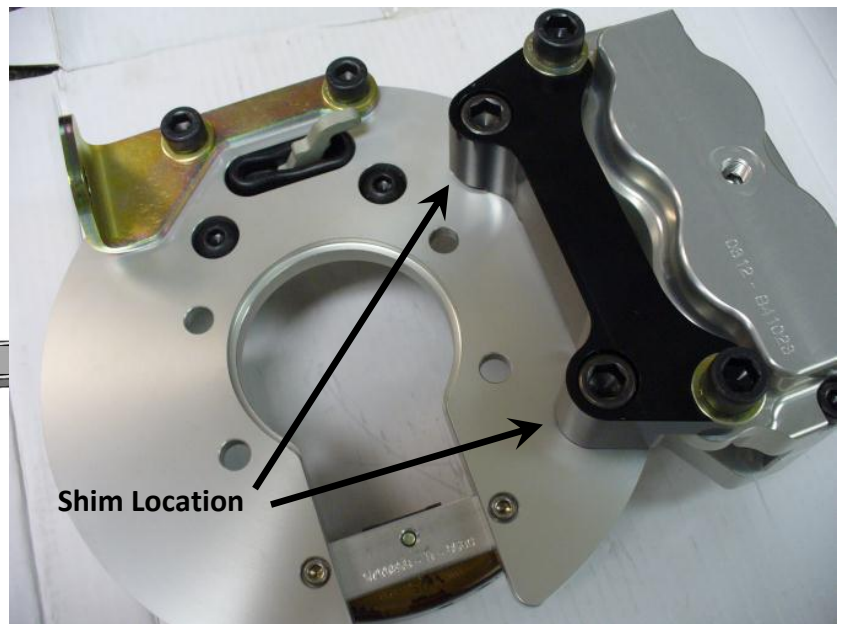
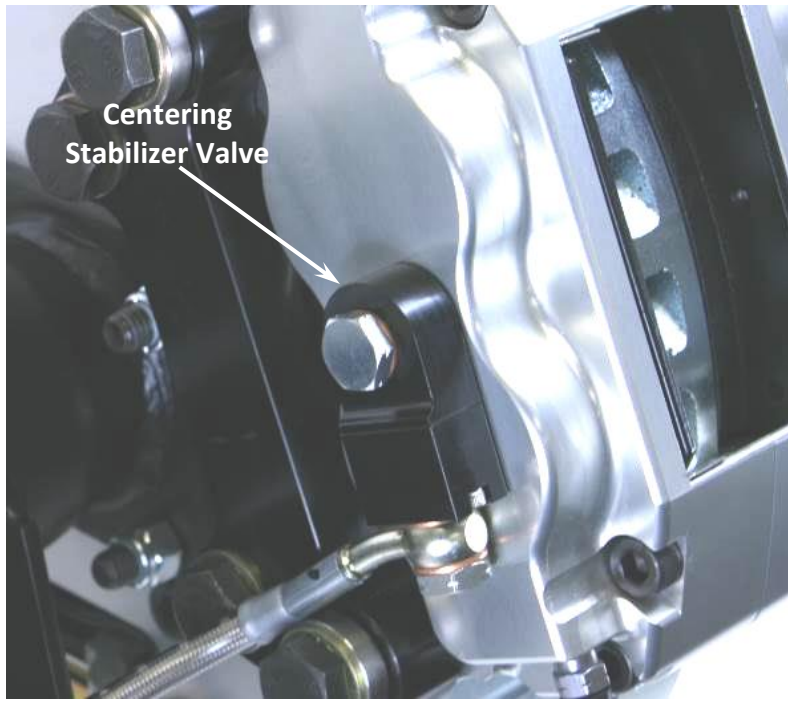

Figure 5 – Shim Location (Bracket May Differ - Shown for Reference Only)
Figure 6 – Centering Stabilizer Valve (CSV)
13. A Centering Stabilizer Valve (CSV) is attached to each rear caliper. The CSV can be seen in Figure 6. The CSV is used to keep the caliper properly centered over each rotor. Attach the banjo bolt using two copper crush washers on each side of the hose end. The CSV can be positioned in any direction and should be positioned to allow the best fitment of the brake hose. Install the hardline retainer bracket onto the rear axle housing retaining it to the axle tube using the provided stainless steel clamp. With the retainer installed, insert the -3 AN x 3/8"-24 Adapter into the retainer and install the provided hose lock. With the hose properly positioned away from interference, torque all banjo connections to 15-20 ft/lbs. Figure 5 shows a completed installation and possible hose routing and attachment.